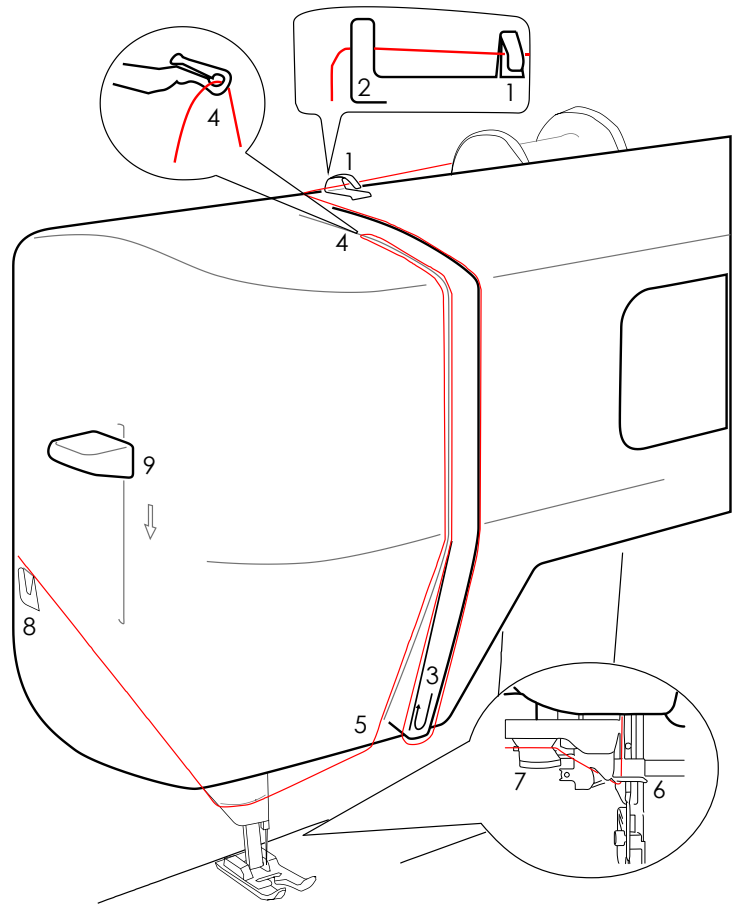

Figure 2
When you filled the bobbin, you followed the dotted line on the machine. For threading the machine proper, you'll follow the solid line in the order of the numbered parts on the machine. See Figure 2 for reference.
- 1) If you filled your bobbin right before this, you should already have your thread through Part 1 and under Part 2. See the upper right detail bubble in Figure 2.
- 4) The lever in the slot has a hook to hold your thread, so when you pull your thread forward to bring it down to Part 5, it'll catch on the lever. See the upper left detail bubble in Figure 2.
- 6) Pull your thread through the loop on Part 6 and wrap it between the flat above part 7 and the round thing that defines Part 7. See the lower detail bubble in Figure 2.